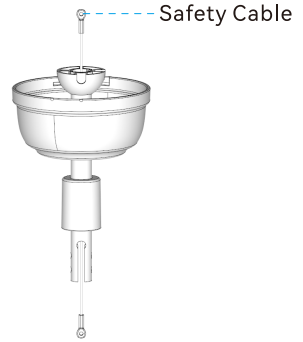

Fig. 3.1
3.1 Assemble the downrod as shown in Fig. 3.1. Insert the downrod through the canopy and wiring cover.